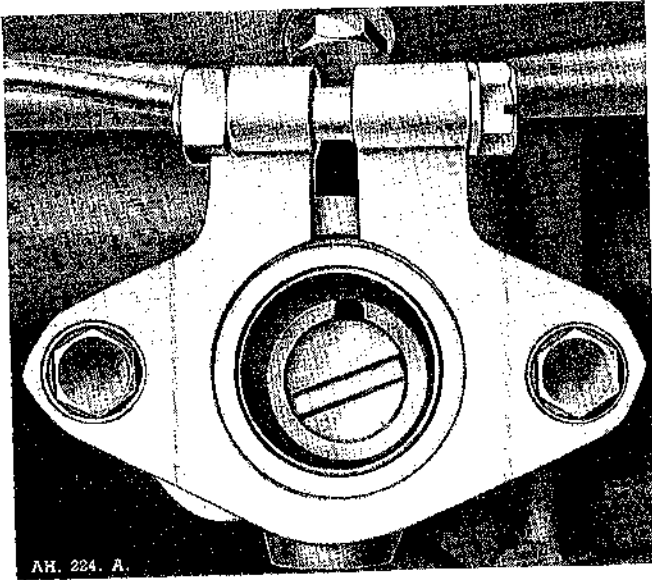

Fig. B.5. Tachometer spindle, showing the smaller segment of the offset dog in the downward position.
**Note:** The internal dog should now be in the "twenty-to-two" position, see Fig. B.5. Secure the tachometer housing to the block with its three setpins.
- (6) Replace the distributor following the instructions given in Section B.5.